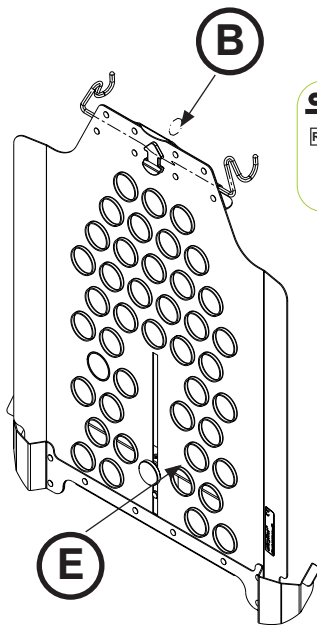

Figure 55: Upright X-Ray Cassette Holder Outside View
4. Insert and remove cassettes from the upright cassette holder from either side of the cassette holder or pull up on the yellow arrow to release the wire latch (B) on the upright cassette holder, releasing the upright cassette holder from the fowler weldment, and then position the cassette in the holder.
5. Loosen the knob (E) on the back side of the upright cassette holder and adjust the cassette support rail (D) to position the cassette in the desired location (Figure 55). Tighten the knob to secure the cassette support rail in place.
1. With the fowler raised, pull up on the yellow arrow (B) to release the wire latch (C) on the upright cassette holder from the fowler weldment bar (Figures 55 and 56).